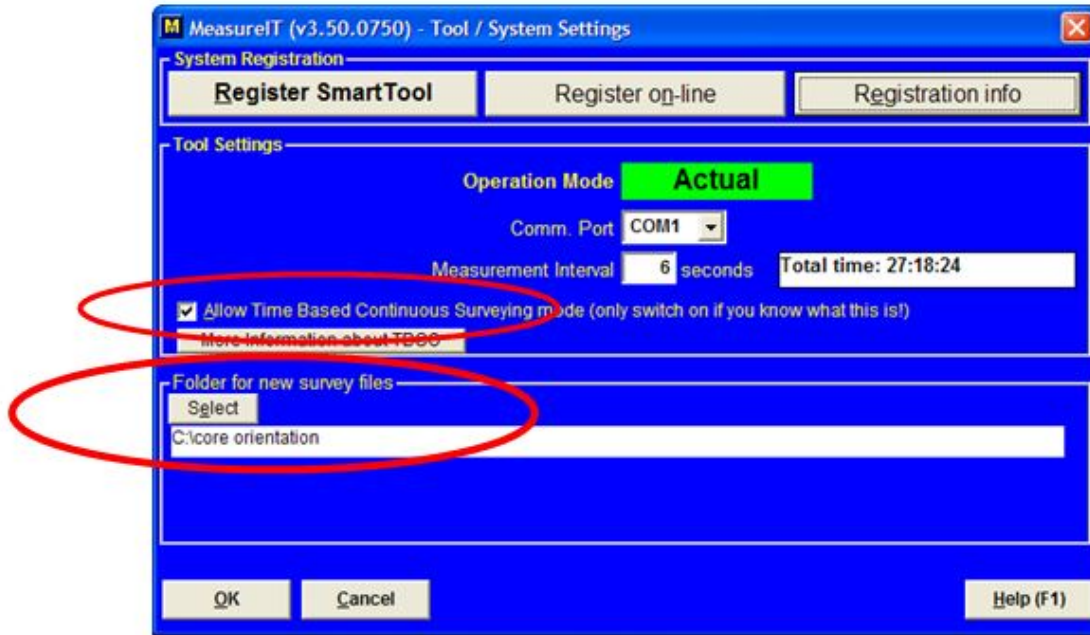

Figure 4 Specifying file location for your surveys and enabling time based continuous survey mode.
4. Use The Tool Setup button (**Figure 2**) to set your default file location for surveys as well as enable Time-Based Continuous Survey (TBCS) mode (**Figure 4**).